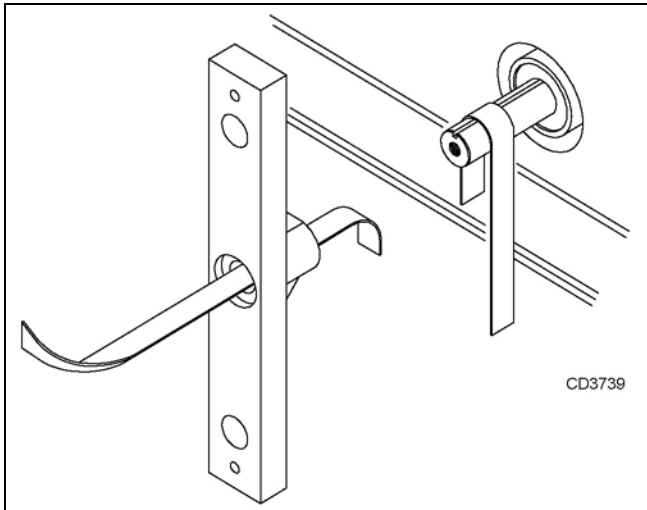

Figure 24. Example of Crossbar and Gearbox Shaft
1. Using emery cloth (220 or finer), remove surface rust, and foreign material from hub, splined gearbox vertical shaft, and crossbar. See Figure 24.